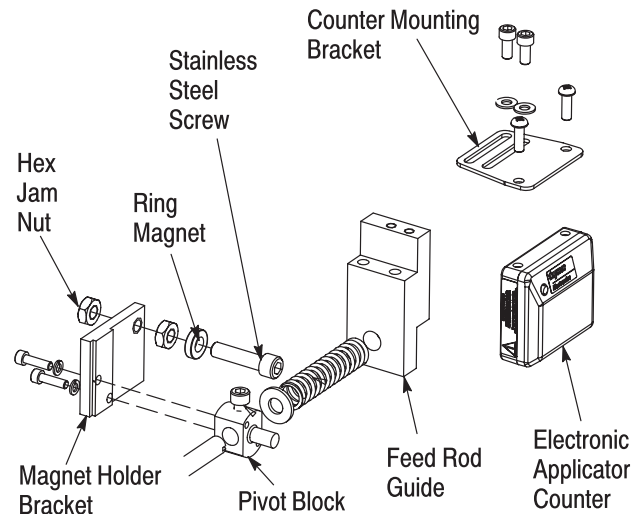

Figure 13
13. Install the ring magnet onto the stainless steel screw and secure the magnet with a hex jam nut. See Figure 13.
15. Attach the magnet holder bracket to the pivot block using two socket head cap screws. See Figure 13.